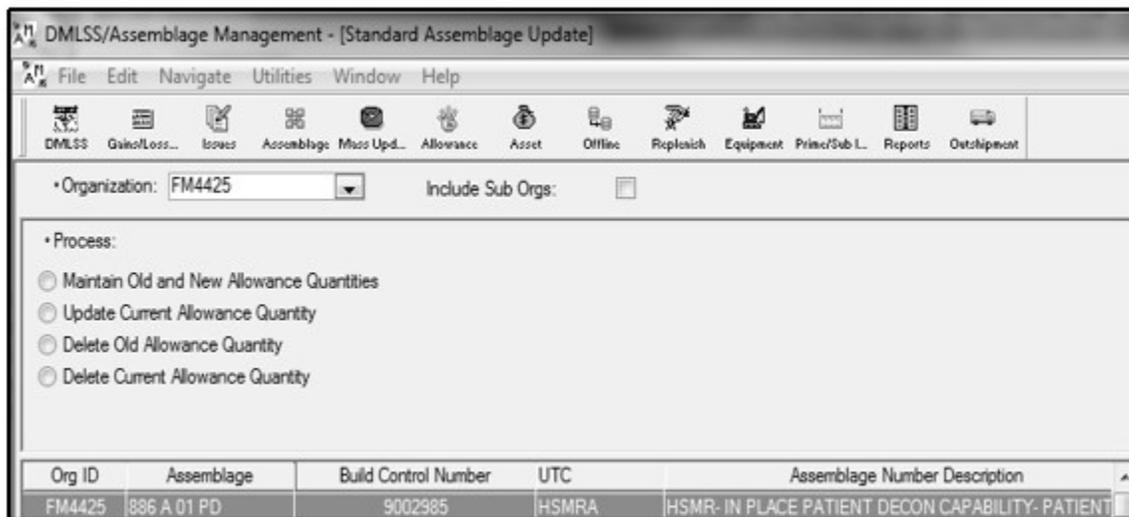

Figure 36. Standard Assemblage Update Window
(1) This process pulls the allowances from the DMLSS Master UDR file and updates the specified assemblage allowances in AM. Select “Standard Assemblage Update” from the “Navigate” menu to access this function.
(2) In the “Standard Assemblage Update” window (Figure 36) select the owning ORG for the assemblage being updated. All assemblages associated to that ORG are displayed in the bottom portion of the window. Highlight the assemblage(s) being updated and select the appropriate updated option in the “Process” box. Multiple update options are available and described as follows: